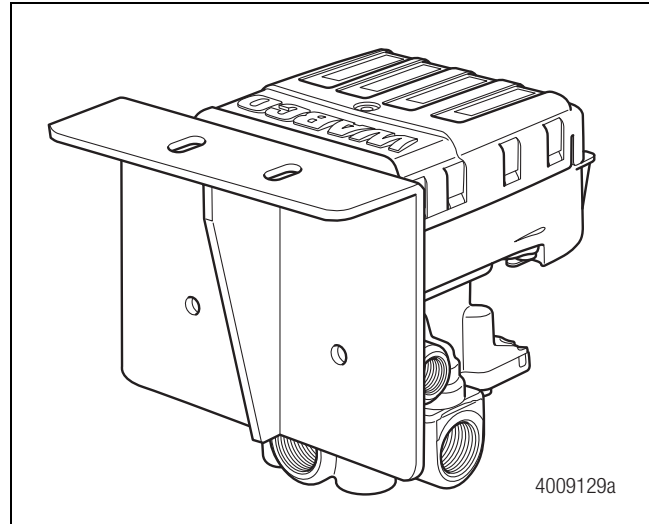

Figure 6.8
The replacement ECU assembly is typically mounted on an air tank. Alternately, a bracket may be fabricated using steel at least 3/16-inch (5 mm) thick or mounted directly to the cross member. Figure 6.8.
- Attach to a mounting bracket with two 9/16-inch (14 mm) mounting holes with 3-1/2-inches (89 mm) center-to-center distance between the two holes. The bracket must be made of cold rolled 1040 to 1080 steel with a reinforcing gusset. Figure 6.8.